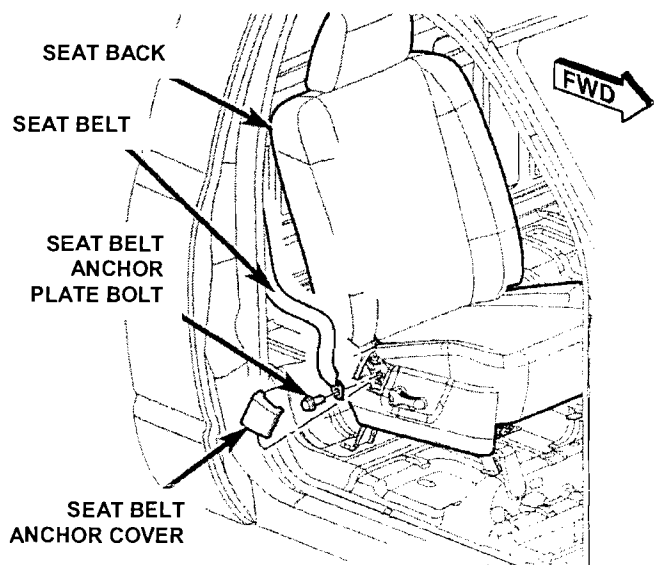

Figure 2
8. Carefully remove the seat belt seat anchor cover (Figure 2).
9. Remove the seat belt anchor plate bolt from the seat (Figure 2).
25. Install the seat belt seat anchor cover (Figure 2).